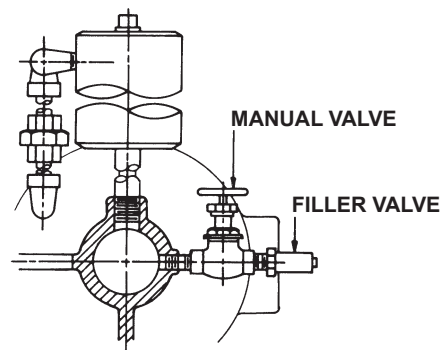

FIGURE 3
**NOTE:** If your pump has an automatic snap on filler valve arranged similar to that shown in **figure 3**, it is not necessary to stop the pump to add oil to the reservoir. Merely connect lubrication pump to automatic filler valve. Open manual valve and fill reservoir with light Refrigeration Oil to approximately 1½ inch from the top. Close manual valve and remove lubrication pump from filler valve. To change oil: proceed as indicated in steps A thru G except vent pumping chamber to atmosphere before changing oil.